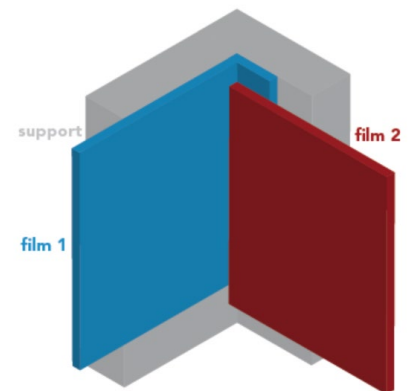

Figure 02
- › Installation on an edge (FIG. 02): Install on the first wall with an overlap of 2-3 cm (1 to 1½ in) on the adjoining wall (film 1). Then install the film on the second wall (film 2), going right until the edge.